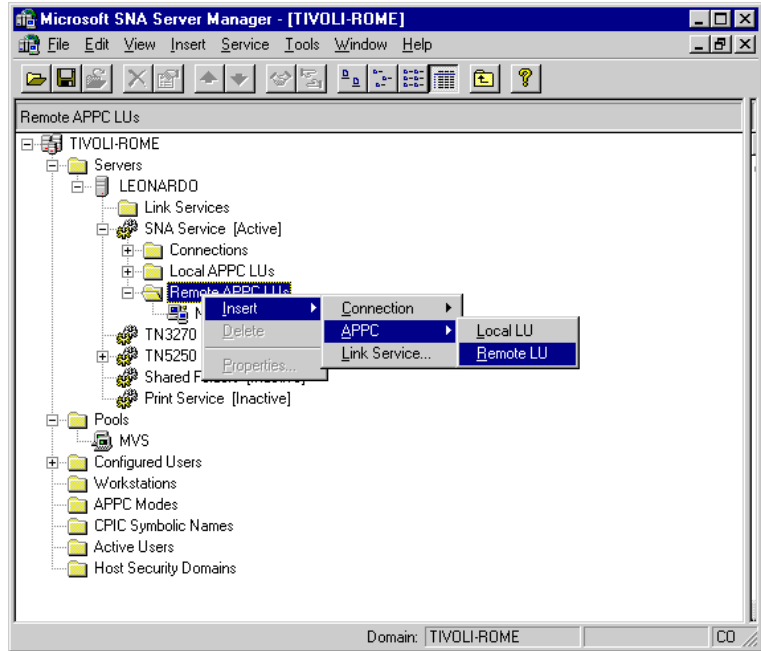

Figure 56. Configuring remote LU properties
- 1 From the Microsoft SNA Server Manager window, select **Remote APPC LUs** ► **Insert** ► **APPC** ► **Remote LU**, as shown in Figure 56 on page 135.